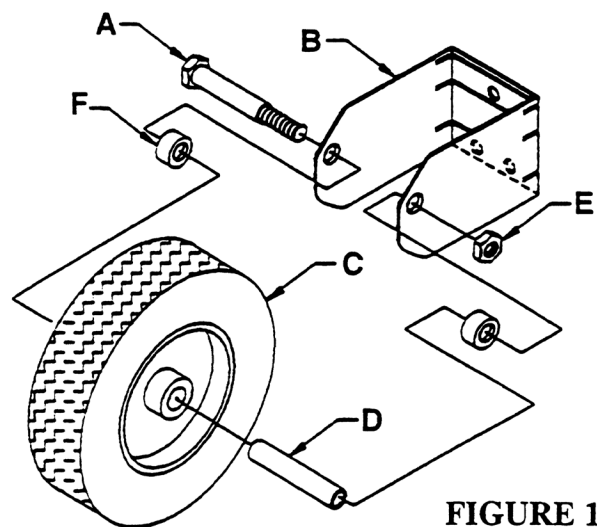

FIGURE 1
3. [Use Figure 1 for steps 3 & 4.] Remove the nut and the axle bolt (A & E) that secures the front wheel in the bracket. Put the wheel, bolt, nut, sleeve and spacers aside (C, E, A, D, G) - you will need to assemble these to your new kit later.
4. Remove the three nuts holding the wheel bracket and bracket adapter on your blower; the nuts, bracket (B), and bracket adapter (G) will not be re-used.